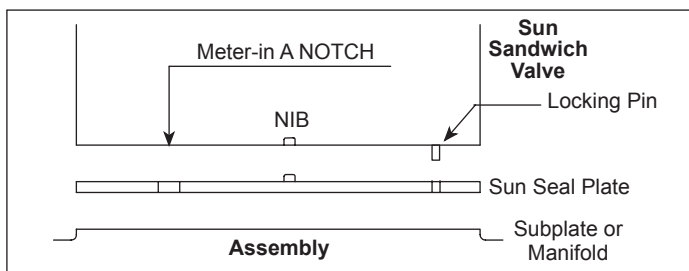

Figure 2. Assembly
All Sun seal plates are manufactured to accommodate current industry standards regarding port and mounting bolt locations. Each Sun ISO 03 (CETOP 3) sandwich body is supplied with a "NIB" locating hole which is drilled on each mounting face to position the body in the correct relationship to the ports and mounting holes. To further ensure that all bodies are located properly, all ISO 03 (CETOP 3) sandwich bodies are stamped with an arrow (or arrows) to show the relationship to the notch in the seal plate (see *Figure 2*). Multi-function bodies are "NOTCH" stamped for all possible mounting positions and all positions should be carefully inspected to be sure the intended function is correctly installed.
2. Position the Sun sandwich body so that the control "NOTCH" arrow for the required function points to the "NOTCH" in the seal plate. See *Figure 2*.